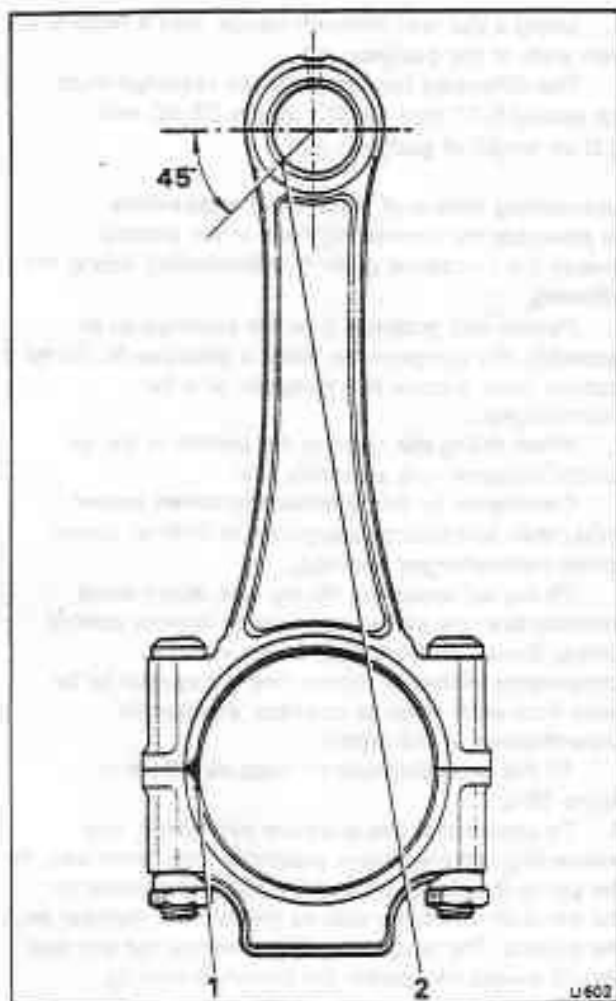

Fig. E6-9 Position of small-end bush
10. Place the cap onto the rod, ensuring that the two tangs are on the same side of the crankpin (see fig. E6-9).
7. Position the new bush so that the chamfered edge is towards the connecting rod. Also ensure that the split in the bush is 45° away from the centre axis of the rod and on the same side of the rod as the locating recesses for the big-end bearing shells (see fig. E6-9). In this position the oil hole in the bush should line up with the oil hole in the small-end boss.